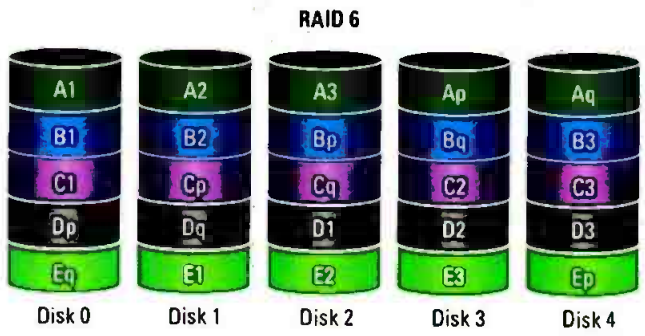

Figure 4. RAID 6 uses two parity blocks per stripe, so it can survive the loss of two disks.
- **RAID 6.** RAID 6 can withstand a loss of a single disk. RAID 6 uses two parity blocks per stripe instead of just one, allowing it to survive the loss of two disks. Even if a disk goes down during a rebuild, no data is lost. (See Figure 4.)